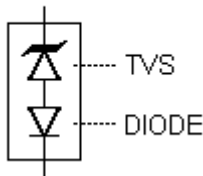
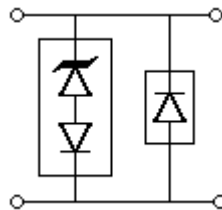

FIGURE 4
FIGURE 5
The HSMBJSAC transient voltage suppressor (TVS) series rated at 500 Watts provides an added rectifier element as shown in Figure 4 to achieve low capacitance in applications for data or signal lines. The low capacitance rating of less than 30 pF may be used for protecting higher frequency applications in inductive switching environments or electrical systems involving secondary lightning effects per IEC61000-4-5 as well as RTCA/DO-160D or ARINC 429 for airborne avionics. If bidirectional protection is needed, two HSMBJSAC devices in anti-parallel configuration are required as shown in Figure 6. With their very fast response time, they also provide ESD and EFT protection per IEC61000-4-2 and IEC61000-4-4 respectively.
* TVS devices are not typically used for dc power dissipation and are instead operated $\leq V_{WM}$ (rated standoff voltage) except for transients that briefly drive the device into avalanche breakdown (V_{BR} to V_C region) of the TVS element. Also see Figures 5 and 6 for further protection details in rated peak pulse power for unidirectional and bidirectional configurations respectively.
The TVS low capacitance device configuration is shown in Figure 4. As a further option for unidirectional applications, an additional low capacitance rectifier diode may be used in parallel in the same polarity direction as the TVS as shown in Figure 5. In applications where random high voltage transients occur, this will prevent reverse transients from damaging the internal low capacitance rectifier diode and also provide a low voltage conducting direction. The added rectifier diode should be of similar low capacitance and also have a higher reverse voltage rating than the TVS clamping voltage V_C. Consult factory for recommended rectifier part number. If using two (2) low capacitance TVS devices in anti-parallel for bidirectional applications, this added protective feature for both directions (including the reverse of each rectifier diode) is also provided. The unidirectional and bidirectional configurations in Figure 5 and 6 will both result in twice the capacitance of Figure 4.